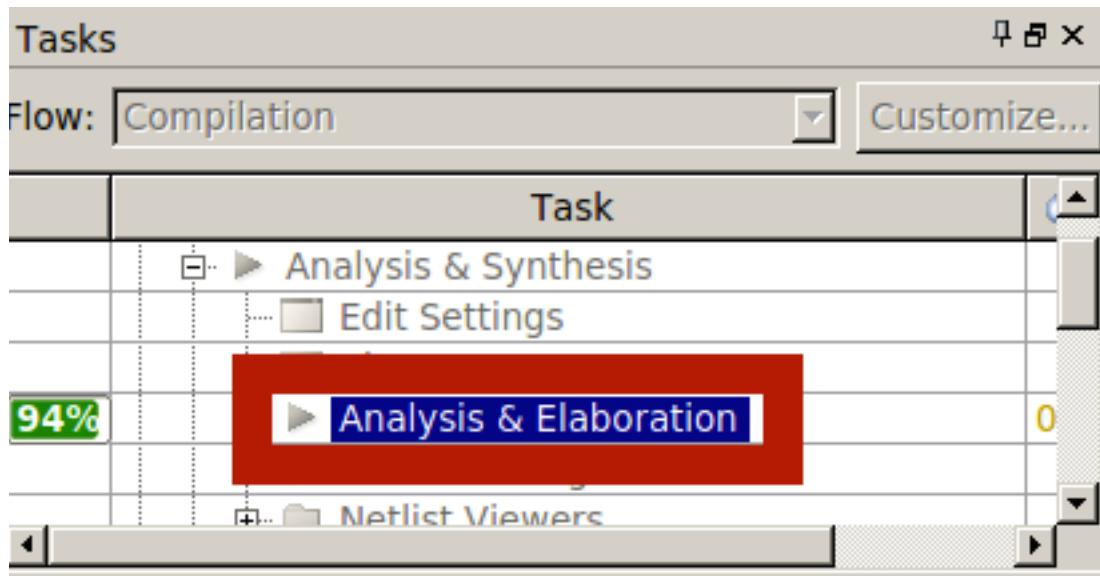

fig 3.2.1
- Under task double click **Analysis and synthesis -> Analysis & Elaboration** or click **Processing -> Start -> Start Analysis & Elaboration** in preparation for assigning pin locations. See fig 3.2.1